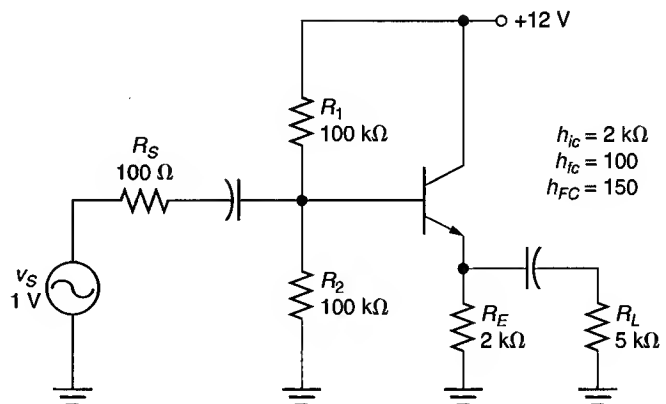

FIGURE 10.20
1. Determine the values of V_B , V_E , and I_E for the circuit shown in Figure 10.20.
3. Plot the dc load line for the circuit shown in Figure 10.20.
5. Determine the value of Z_{in} for the circuit shown in Figure 10.20.
7. Determine the values of A_v , A_i , and A_p for the circuit shown in Figure 10.20.
9. Determine the value of Z_{out} for the circuit shown in Figure 10.20.